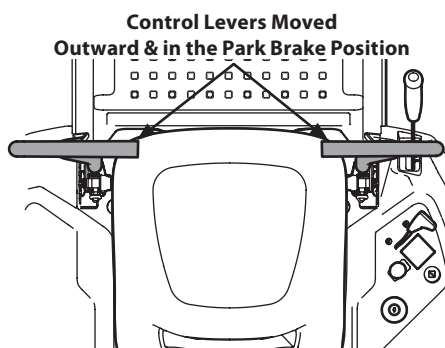

Figure 26
1. Operator should be sitting in the tractor seat with the lapbar drive control levers fully out and in the park position. See Figure 26. Refer to Practice Operation for further instructions.